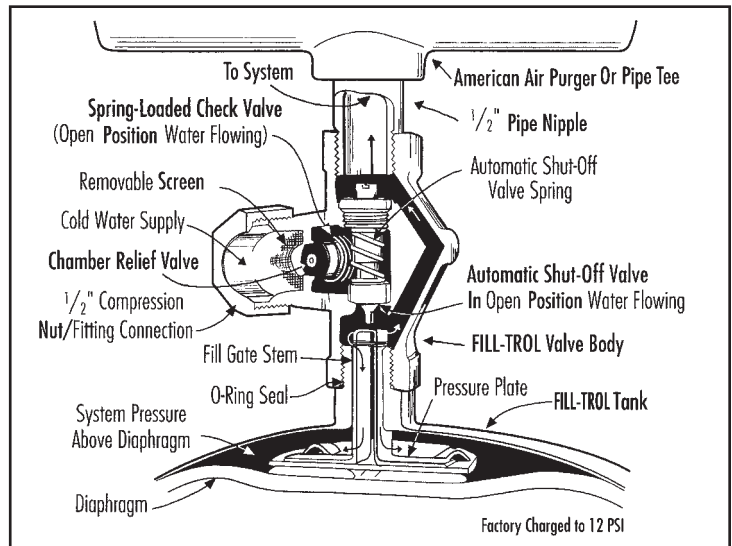
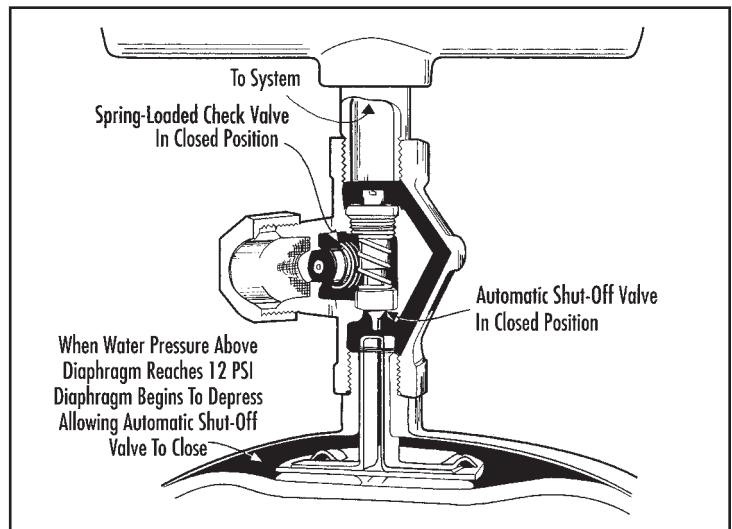

FIGURE 2
FIGURE 3
Referring to Figure 2, water enters the FILL-TROL valve through the 1/2" compression fitting connection, passes through the strainer and pushes open the spring-loaded check valve. It then flows through the automatic shut-off valve, which is held in the open position by the charge pressure in the FILL-TROL tank forcing the diaphragm against the pressure plate, which raises the fillgate stem, compressing the automatic shut-off valve spring. The water then flows through the valve body and through the system connection to the heating system. As the system reaches fill pressure of 12 PSI, the diaphragm in the FILL-TROL tank depresses, permitting the automatic shut-off valve to close (see Figure 3).
4. To remove screen in FILL-TROL valve for cleaning, shut off main water supply to heating system and remove compression nut (See Figure 2, above).